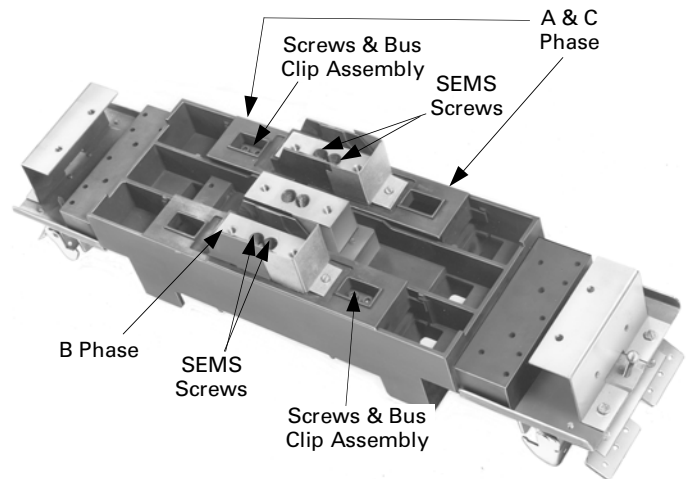

Figure 2. Repositioning the bus clip assembly.
- 2. Phase balancing for two-pole devices on three-phase systems.** Reposition the bus clip assembly from A or C phase to B phase, as shown in Figures 2 and 3. Remove the screws in the bus clip assembly and move the bus clip to the B-phase position. Fasten the bus clip assembly in the new location with the slotted hex-head SEMS screws provided and tighten to 27–32 in-lb.